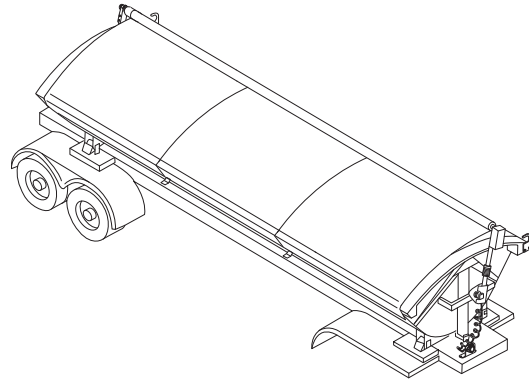

Figure 16
4) See Figure 16. Vinyl Tarp Only - Center the vinyl tarp over the tub bulkheads so an equal length of tarp overlaps the front and rear bulkheads.